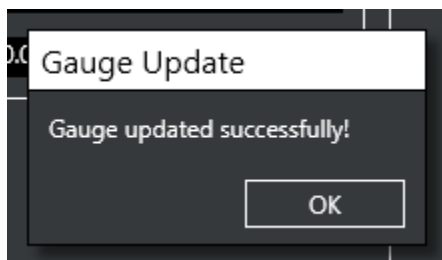

Figure 21: User is notified when the gauge is successfully updated with WiFi network parameters
12. Click "Save to Gauge". If you want the same parameters entered into all gauges in the list, click "Copy to All Gauges". User is notified as shown in Figure 21 when the gauge or gauges are updated.